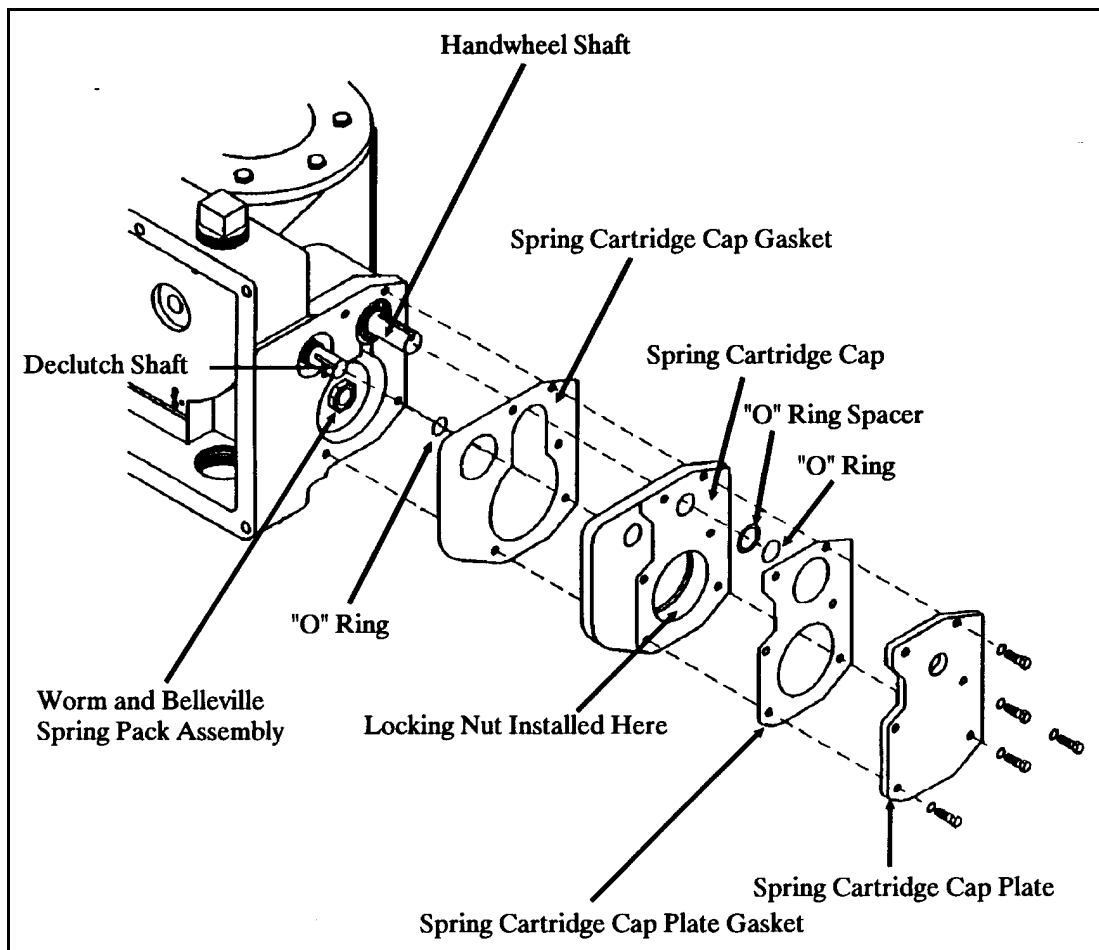

Figure 6-19 Multi-Piece Spring Cartridge Cap
31. Spring Cartridge Cap Installation (New Style) (Multi-Piece) Refer to Figure 6-19